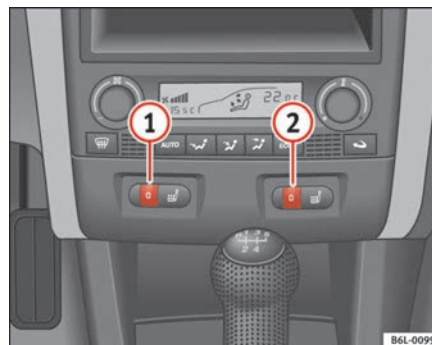

Fig. 76 Thumb wheel for the front seat heating ▶
- Turn the appropriate thumb wheel ⇒ page 108, fig. 76 to switch on the seat heating. The seat heating is switched off in the **0** position.